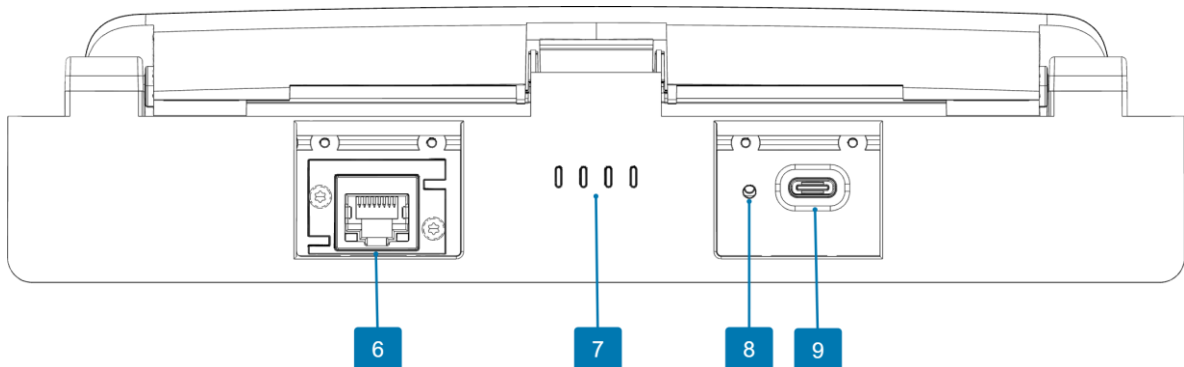

Figure 16: MARS Ranger rear view, plastic covers removed
- Ethernet port (No. 5 in Figure 16) – used for remote antenna connection, webserver access.
- USB-C charging port (No. 8 in Figure 16) – used for charging.
NOTE: Numbers 5, 7, and 8 (Figure 16) are underneath the 2 plastic covers on MARS Ranger. The plastic covers are not shown in the image above for clarity.